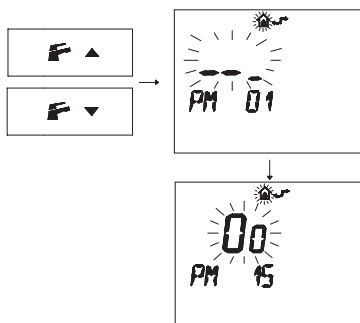

Fig. 8.3
- Press buttons  ▼ or  ▲ to display the "PM15" program that enables the external probe (Fig. 8.3).